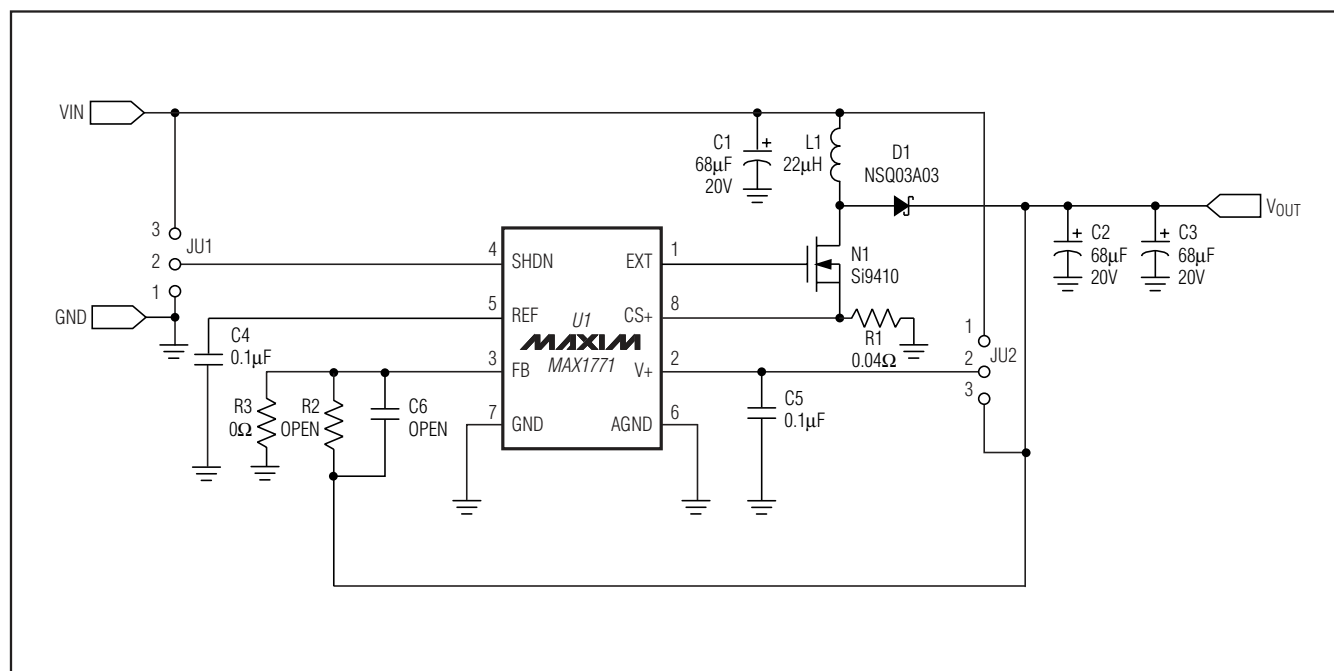

Figure 1. MAX1771 EV Kit Schematic Diagram
*Output Voltage* section of the MAX1771 data sheet gives instructions for calculating R2 and R3 (as shown in Figure 1).